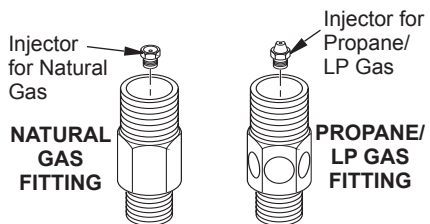

Figure 12 - Burner Inlet Fittings with Injectors
1. Remove the burner inlet fitting from the burner pan assembly. **DO NOT** remove the orifice from this fitting. The propane/LP burner inlet fitting is included in the hardware kit (see Figure 12).